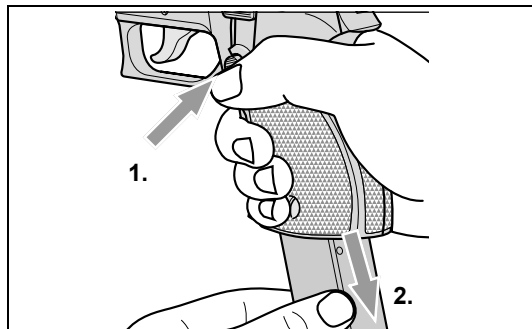

Fig. 2, Removing the magazine
1. Remove the empty magazine (see Fig. 2).
3. Press magazine catch **43** down and remove magazine (see Fig. 2).
- Press magazine catch **43** down and remove magazine (see Fig. 2).